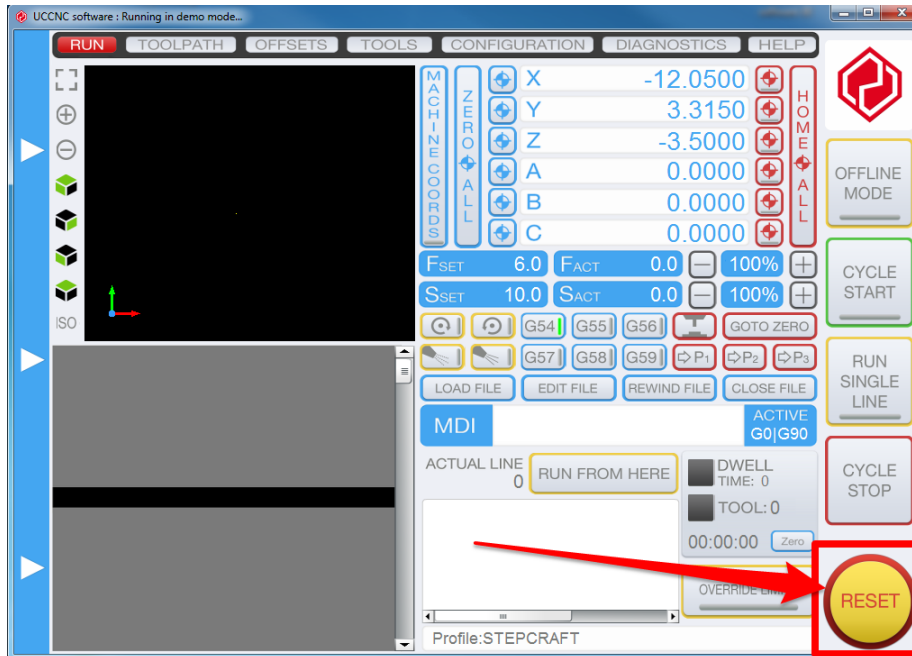

Figure 44: Reset button on UCCNC front panel
- Hit the rest button (it should be flashing yellow and red and is shown in Figure 44). Once clicked it should remain solid red in colour. You should now be able to control the machine with your UCCNC software